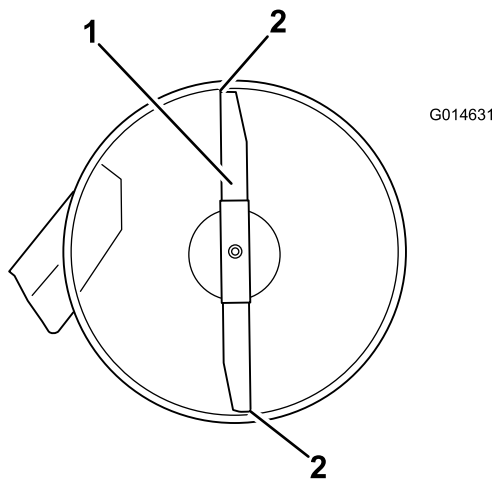
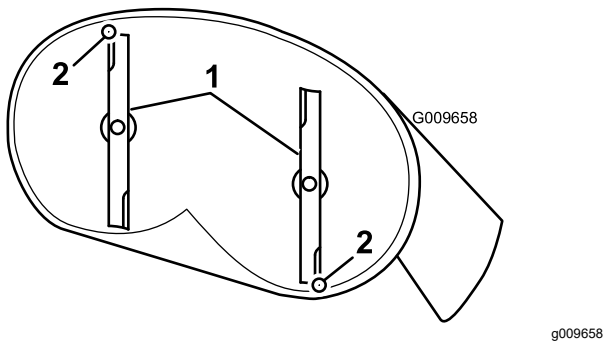

Figure 60
Figure 61
4. Carefully rotate the blade(s) so they are facing front to rear (Figure 60 and Figure 61).
5. Measure from the tip of the front blade to the flat surface, and the tip of the rear blade to the flat surface (Figure 60 and Figure 61).
9. After adjustment, check the front-to-rear slope again, continue adjusting the nut until the front blade tip is 1.6 to 7.9 mm (1/16 to 5/16 inch) lower than the rear blade tip (Figure 60 and Figure 61).